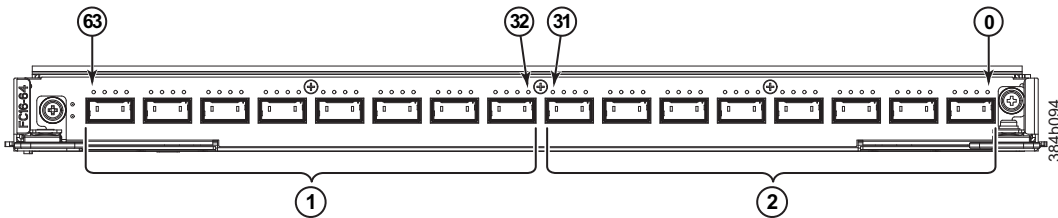

Figure 61. FC16-64 port blade
- Figure 61 on page 170 shows an FC16-64 port blade